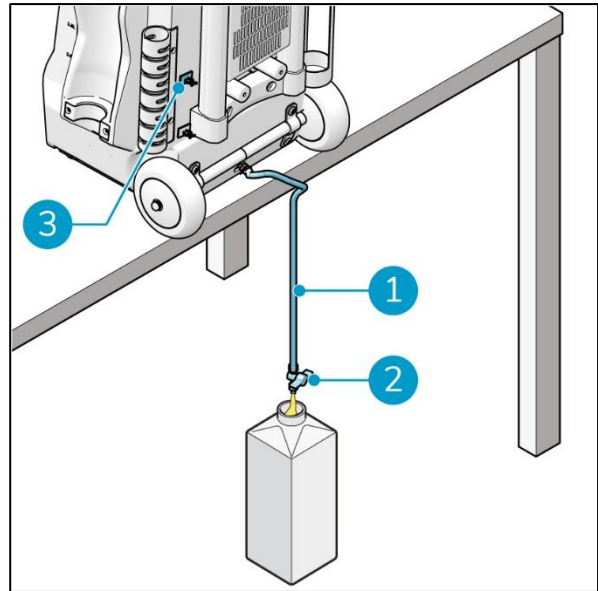

Figure 22
2. Release the drainage tube (Figure 22, pos 1) via the clips (Figure 22, pos 3).
5. Open the tap (Figure 22, pos 2).
6. When empty close the tap (Figure 22, pos 2).
8. Replace the drainage tube (Figure 22, pos 1) using clips (Figure 22, pos 3).
9. Release the drainage tube (Figure 22, pos 1) via the clips (Figure 22, pos 3).
10. Open the tap (Figure 22, pos 2).
12. When empty close the tap (Figure 22, pos 2).
13. Replace the drainage tube (Figure 22, pos 1) using clips (Figure 22, pos 3).